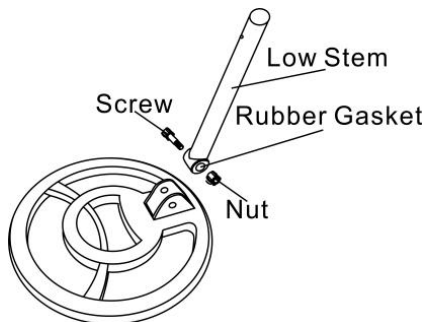

Fig.2
3. Fig.2). Note that the rubber gasket should be placed correctly.